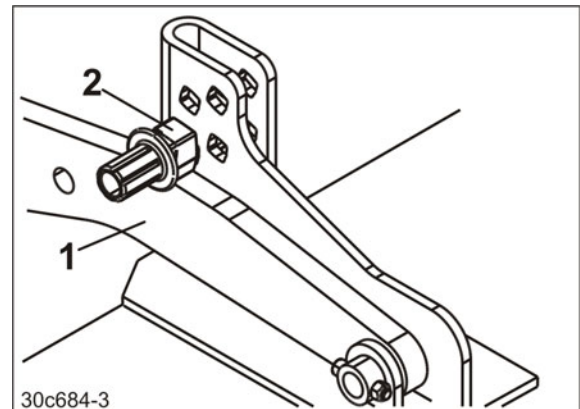

Fig. 84
- The carrying arms (Fig. 84/1) are supported by the depth setting pins (Fig. 84/2).